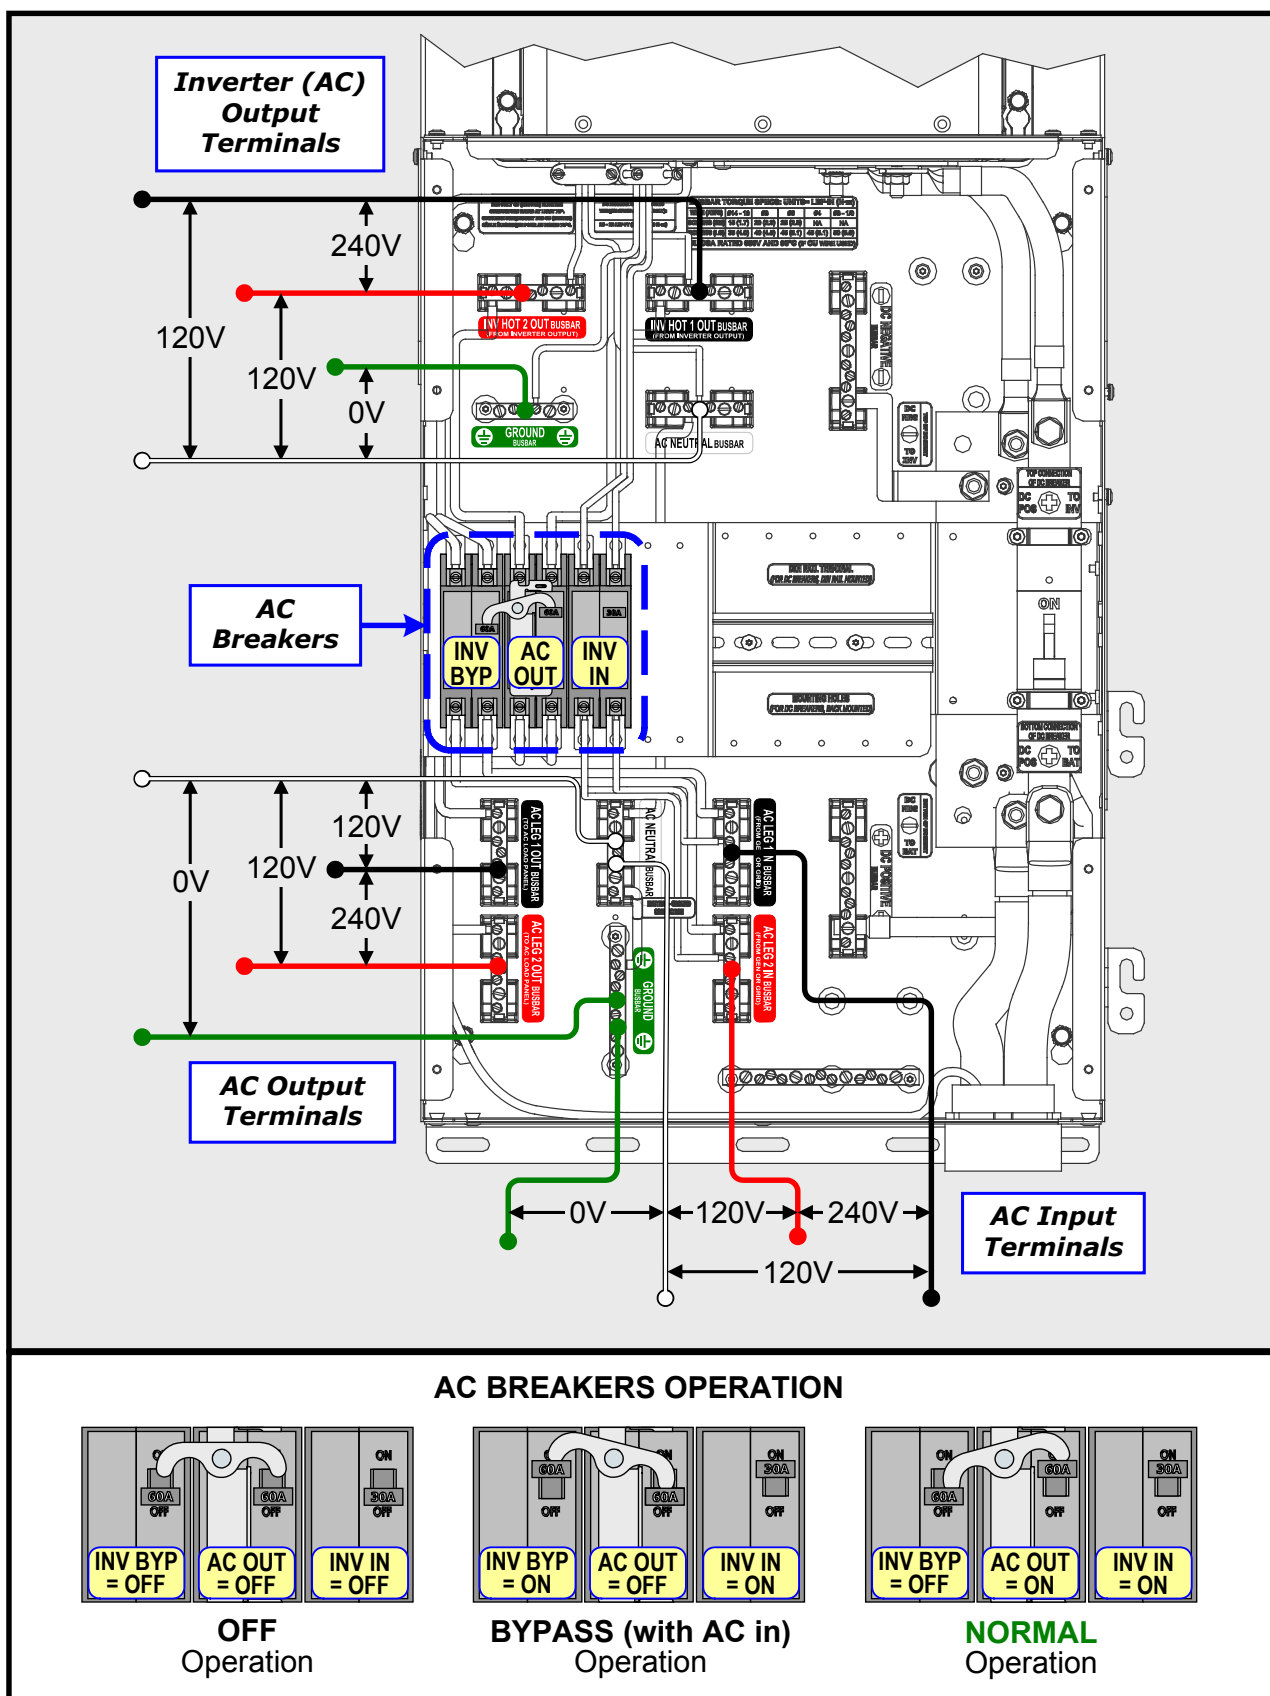
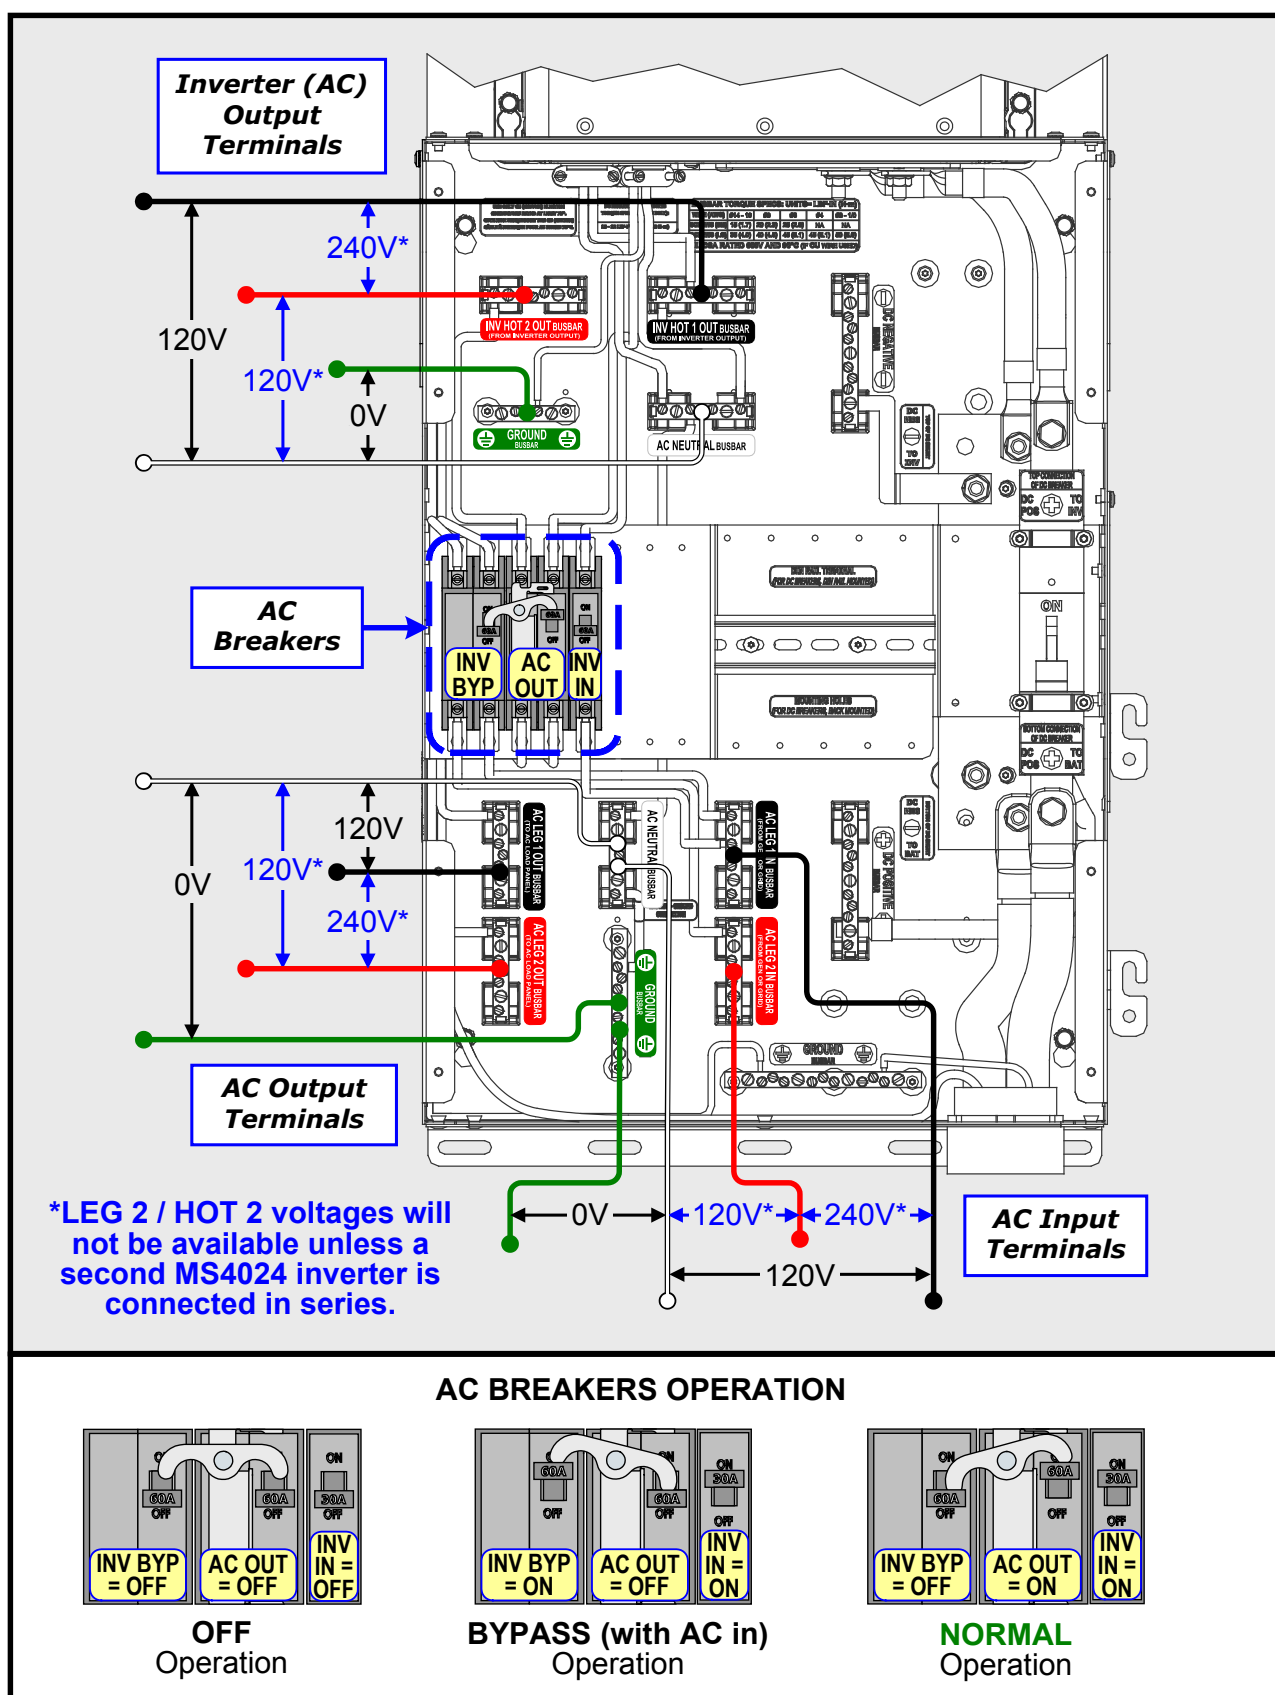
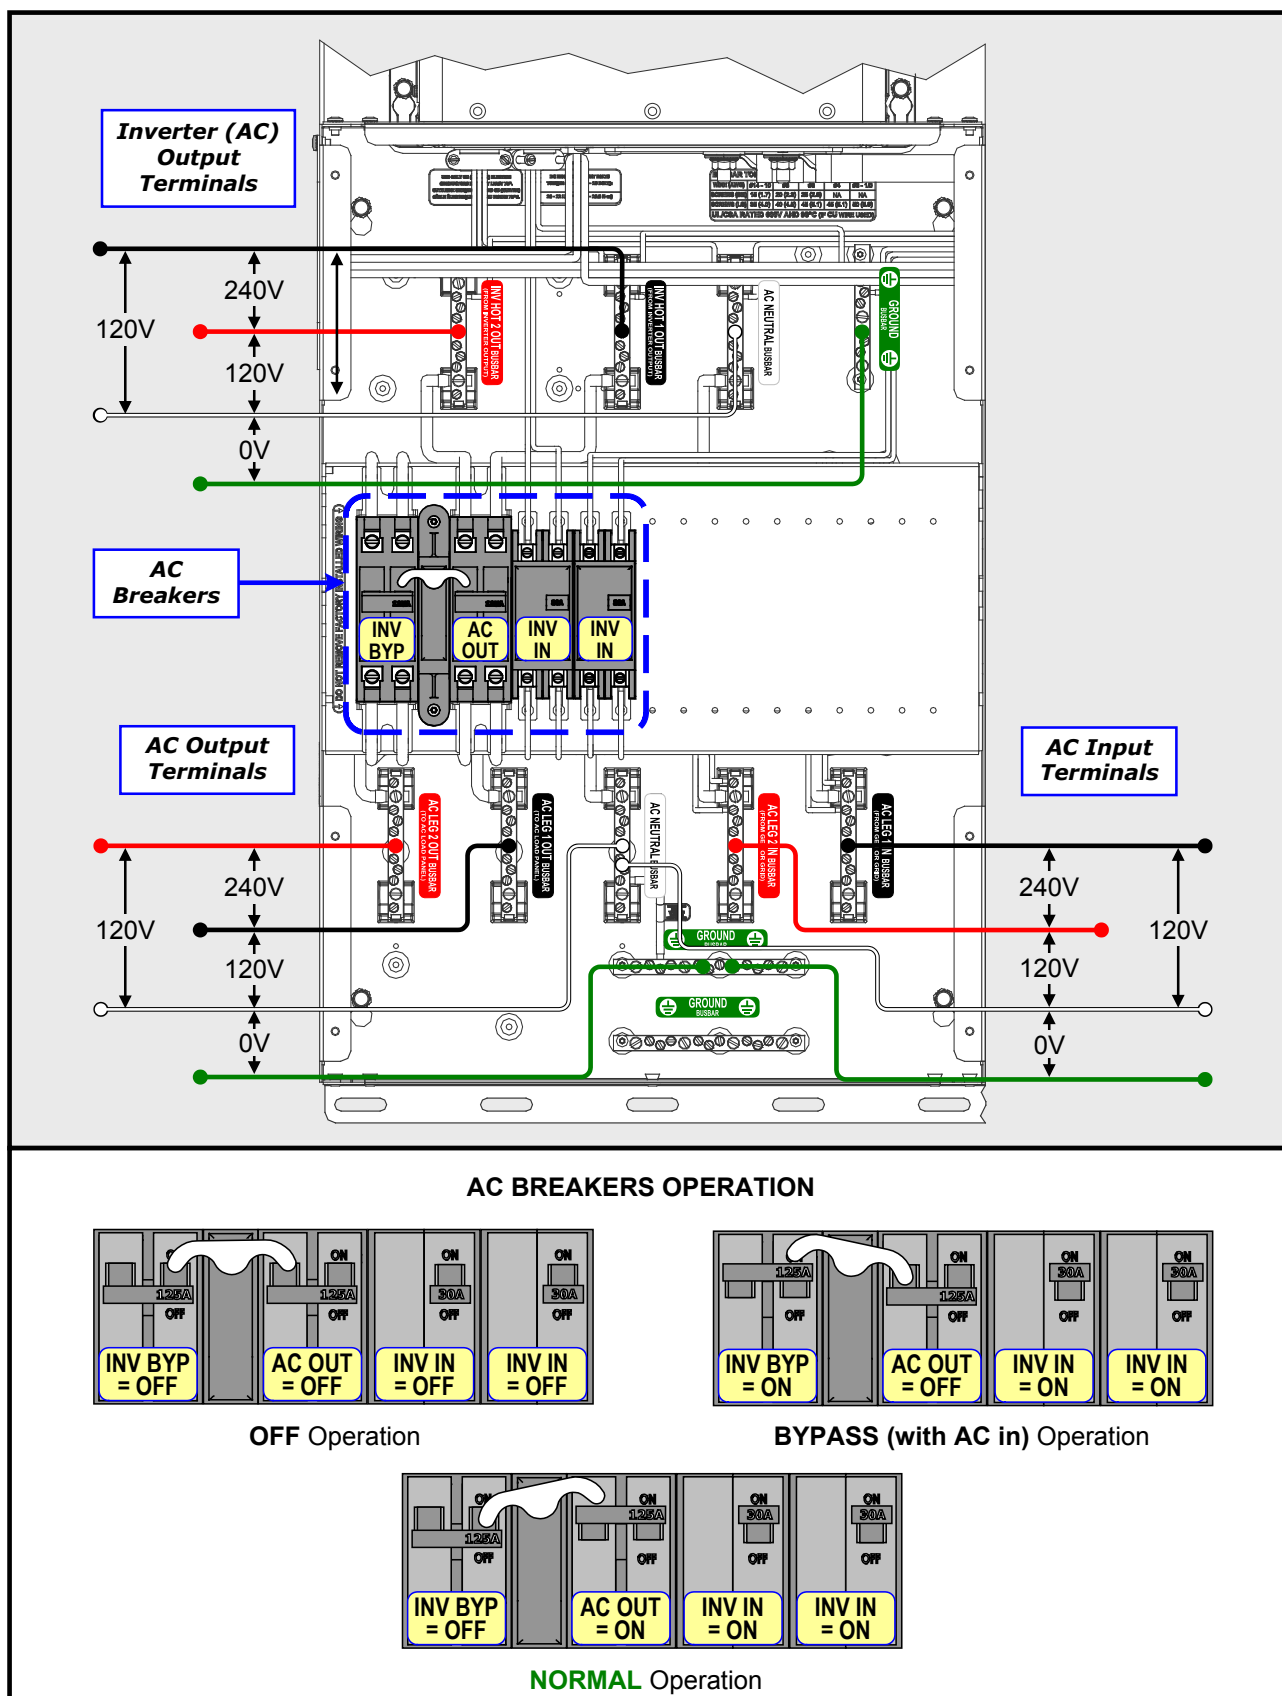

Figure 3-36, AC Voltage Checks - MPSL-30D and MPSH-30D Models
Figure 3-37, AC Voltage Checks - MP5L-60S Models
Figure 3-38, AC Voltage Checks - MPDH-30D (AC Side) Models
Note: For the following steps, refer to Figure 3-36 for MPSL-30D and MPSH-30D models, Figure 3-37 for the MPSL-60S models, and Figure 3-38 for MPDH-30D models.
- b. Connect an AC voltmeter (or multimeter set to AC Volts) to the **Inverter AC Output Terminals** and verify the correct AC voltage from the inverter. Refer to Figure 3-36, 3-37, or 3-38 (depending on your MP model) to determine the correct inverter AC output voltage.
- f. Apply power from an external AC source (utility grid or AC generator) to the **AC Input Terminals** and verify the correct AC voltage from the external AC source. Refer to Figure 3-36, 3-37, or 3-38 (depending on your MP model) to determine the correct AC input voltage.